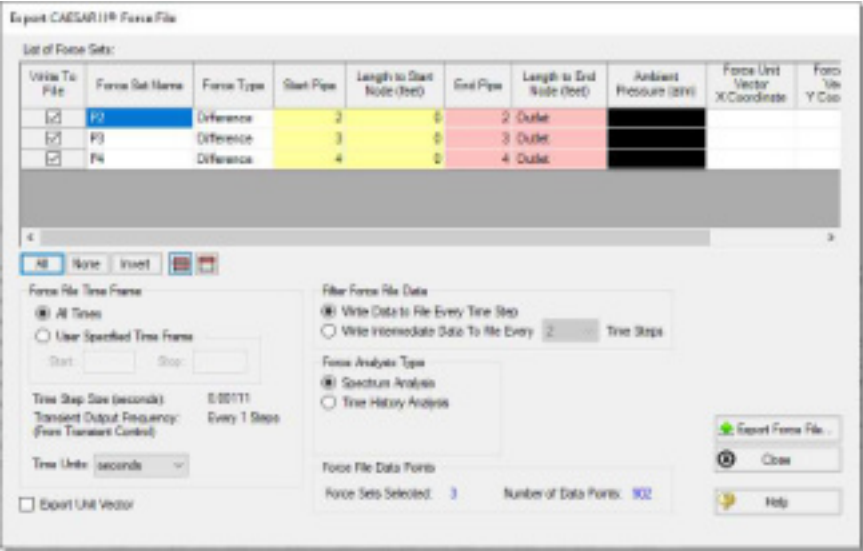

Figure 5.20 Export CAESAR II® Force File window
- **Open the Output window, and click on the File menu.** Select Export Force File... and choose CAESAR II® Force File. This will open the export file window shown in Figure 5.20.